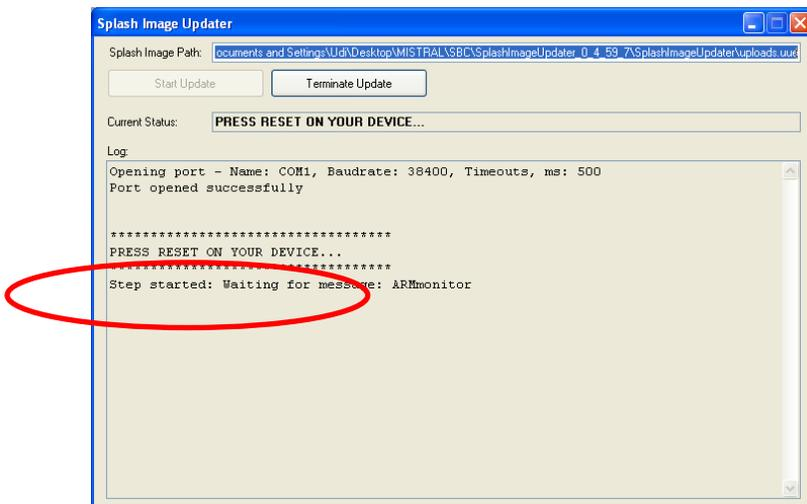

Figure 121
24. Reset the SBC module once the command appears (Figure 121)..